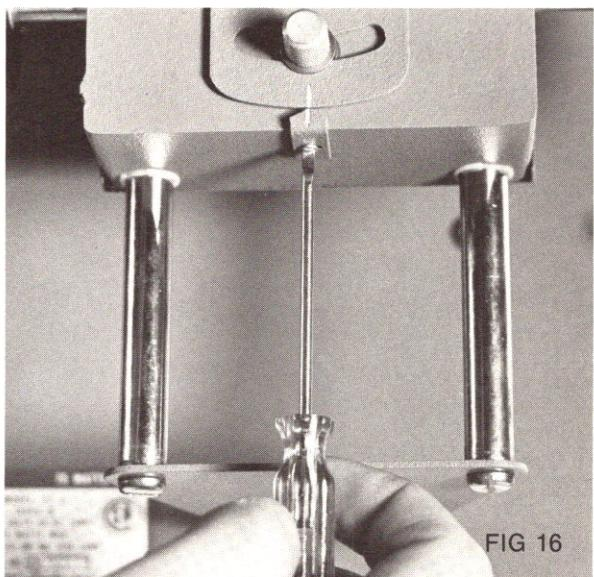

FIG 16
- d. If necessary, re-adjust lower indicator by loosening the mounting screw and aligning with the upper indicator (see fig. 16).